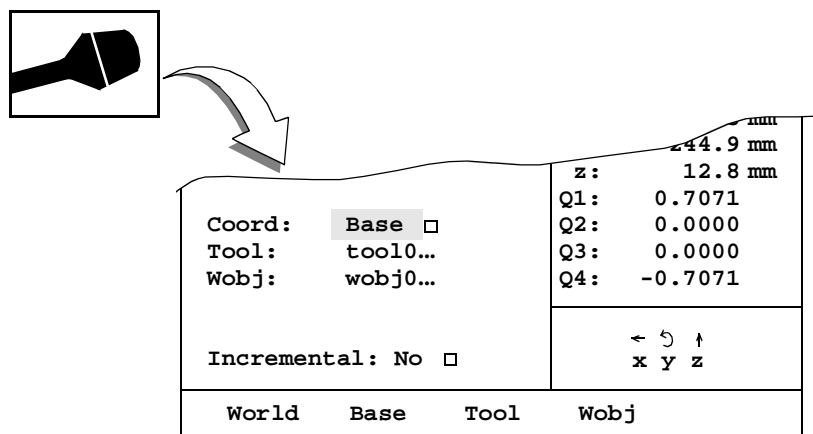

Figure 4 Specify the coordinate system in the Jogging window.
- Select the field **Coord** (see Figure 4).